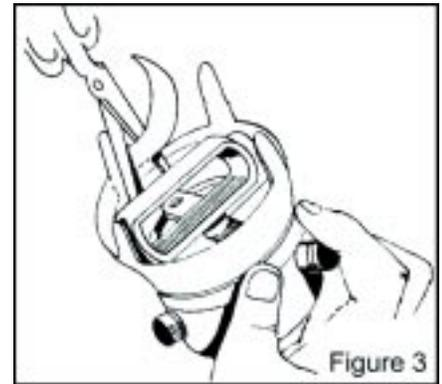

Figure 3
- C) **BE SURE NOT TO TRIM OFF THE 'TABS'.** See figure 3.